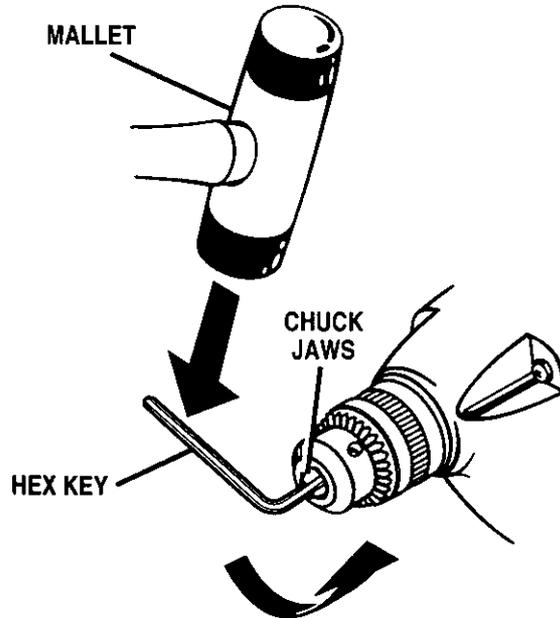

Fig. 12
- Insert hex key in chuck and tighten chuck jaws securely. Tap sharply with a mallet in a counter-clockwise direction. This will loosen chuck on the spindle. It can now be unscrewed by hand. See Figure 12.